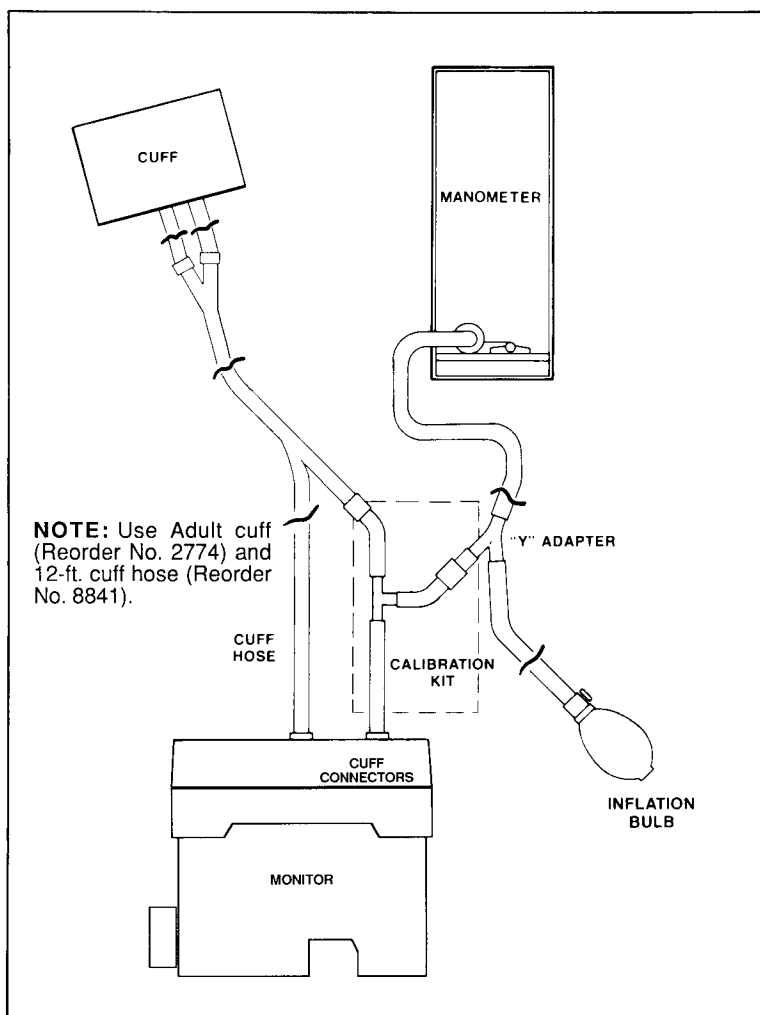

Figure 6-9. Calibration Check Setup
2. Connect a mercury manometer (Baumanometer 300, or equivalent) to the monitor using the parts supplied with the calibration kit as shown in Figure 6-9. In calibration procedure, use Adult Cuff and Air Hose.
5. Press Front Panel OFF switch then press and hold the SET switch in for 4 seconds while pressing the Front Panel ON switch. Flashing 888s in the CYCLE MINUTES display indicate that calibration mode has been entered. The monitor will exit calibration mode if the CANCEL switch is pressed or after 3 minutes of inactivity. To remain in calibration mode indefinitely, hold the SET key for 20 seconds. The monitor will sound a short audio tone and remain in calibration mode until CANCEL is pressed. Cuff pressure will be displayed in the MAP display. Allow the monitor to stabilize for about 30 seconds, then press SET four (4) times to perform an auto-zero operation.
4. Verify that the manometer pressure does not fall by more than 5 mmHg in 60 seconds. If it does, either the cuff or hose or both are defective. If the cuff and hose pass this test reconnect as shown in Figure 6-9. Pump up the cuff and hose to 200 mmHg, ± 2 mmHg, and perform the same leak check to determine if the leak is, in fact in the monitor. Perform this leak check for all cuff and hose combinations used with the monitor.